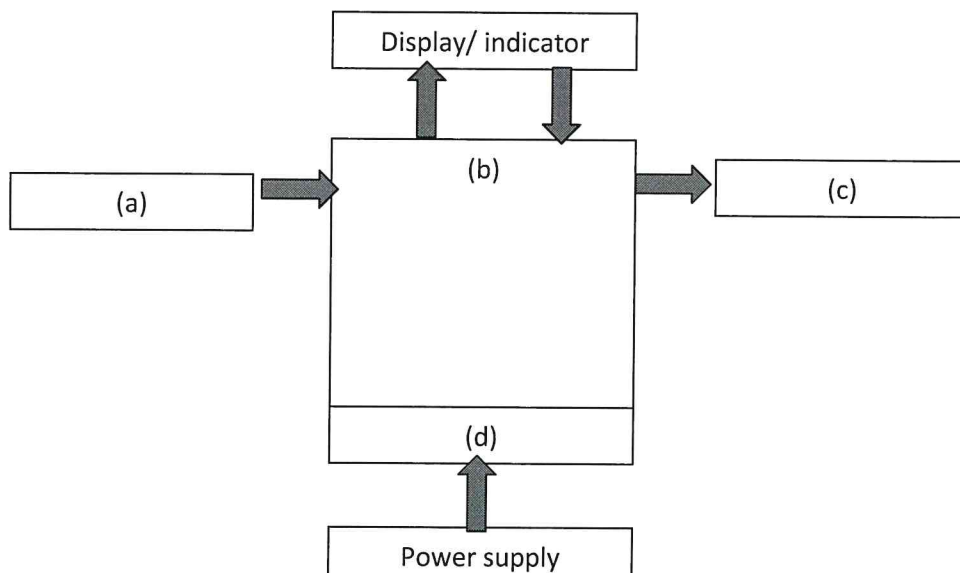

Figure A1 (b)/Rajah A1 (b)
b) Figure A1(b) shows a PLC building structure. Identify each of the items (a),(b),(c) and (d) below.